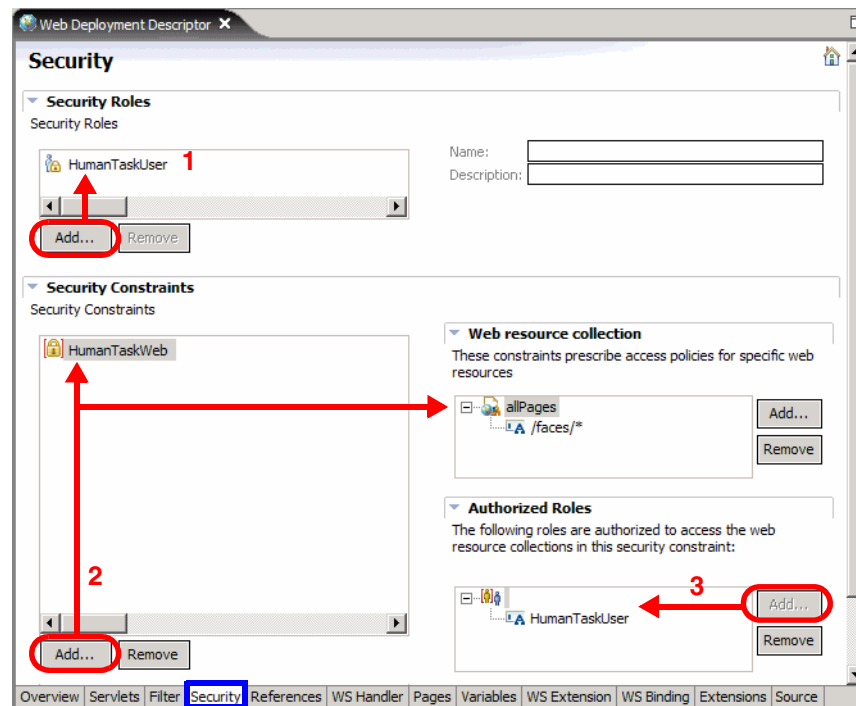

Figure 11-21 Web deployment descriptor with security
- ▶ Open the deployment descriptor of the `ClipsAndTacksHumanCustomWeb` project and select the *Security* tab. Figure 11-21 shows the completed definitions.